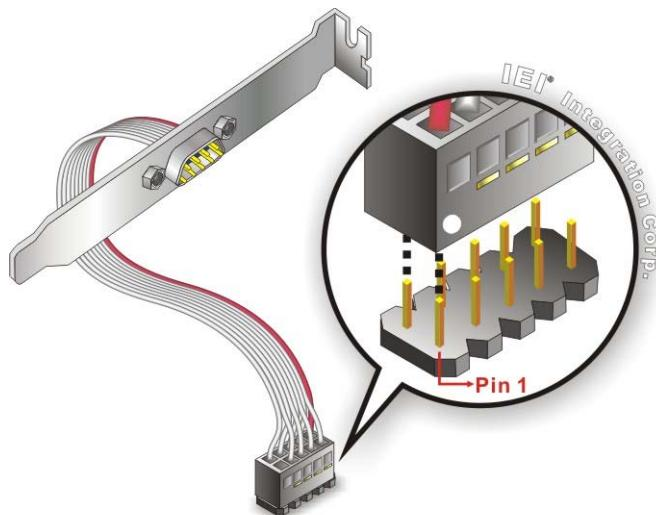

Figure 4-13: Single RS-232 Cable Installation
- Step 2:** **Insert the cable connector.** Align pin 1 on the on-board serial port pin header with pin 1 on the serial port connector. Pin 1 on the serial port connector is indicated with a white dot. Insert the connector into the serial port pin header. See Figure 4-13.